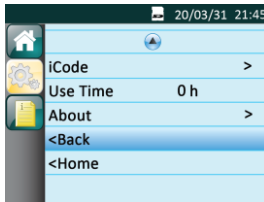

Fig. 13-8
(1) Returning to the Initial Setup Interface Move the cursor to the **Back** option by turning the **Knob** , as shown in Fig. 13-8.